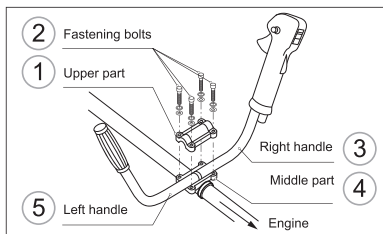

fig. 2
1. Remove the upper part of the handle attachment (1, Fig. 2) by unscrewing 4 screws (2 (Fig. 2)). Install the operating handles (3 and 5, Fig. 2). The right-hand grip (3, Fig. 2) is equipped with engine controls, the trigger of the right-hand grip should be directed toward the gearbox.